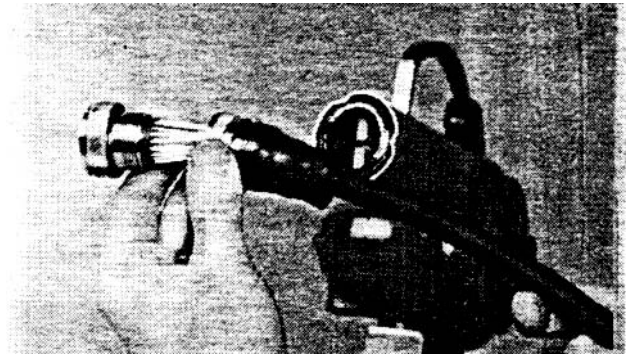

Figure 6. Heating and Retracting Shrink Protective Boot.
b. Heat the shrink boot with heat gun until warm to touch, then pull the adapter and boot back exposing the connector backside with enough clearance to allow repair (Figure 6).